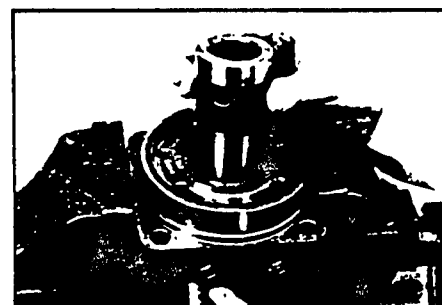
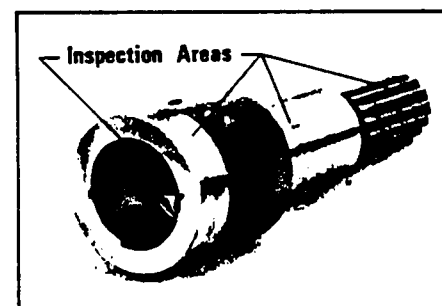

Figure 20
Figure 21
15. Remove coupling shaft (12), by pushing on the output end of shaft. SEE FIGURE 20. Inspect coupling shaft bearing and seal surfaces for spalling, nicks, grooves, severe wear or corrosion and discoloration. Inspect for damaged or worn internal and external splines or keyway. SEE FIGURE 21. Replace coupling shaft if any of these conditions exist.